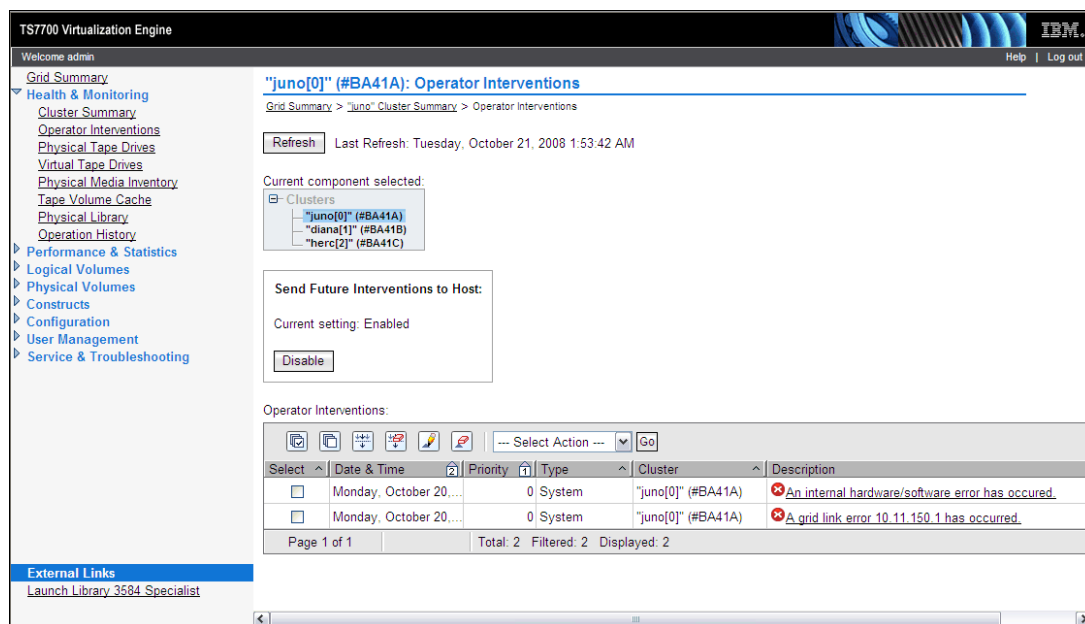

Figure 8-7 MI Operator Interventions
- ▶ Operator Interventions: Indicates whether Operator Interventions is still active and actions have to be taken. Clicking this item will open the window shown in Figure 8-7 on page 422.
Use this window (Figure 8-7) to view all operator interventions performed on a given TS7700 Virtualization Engine Cluster.